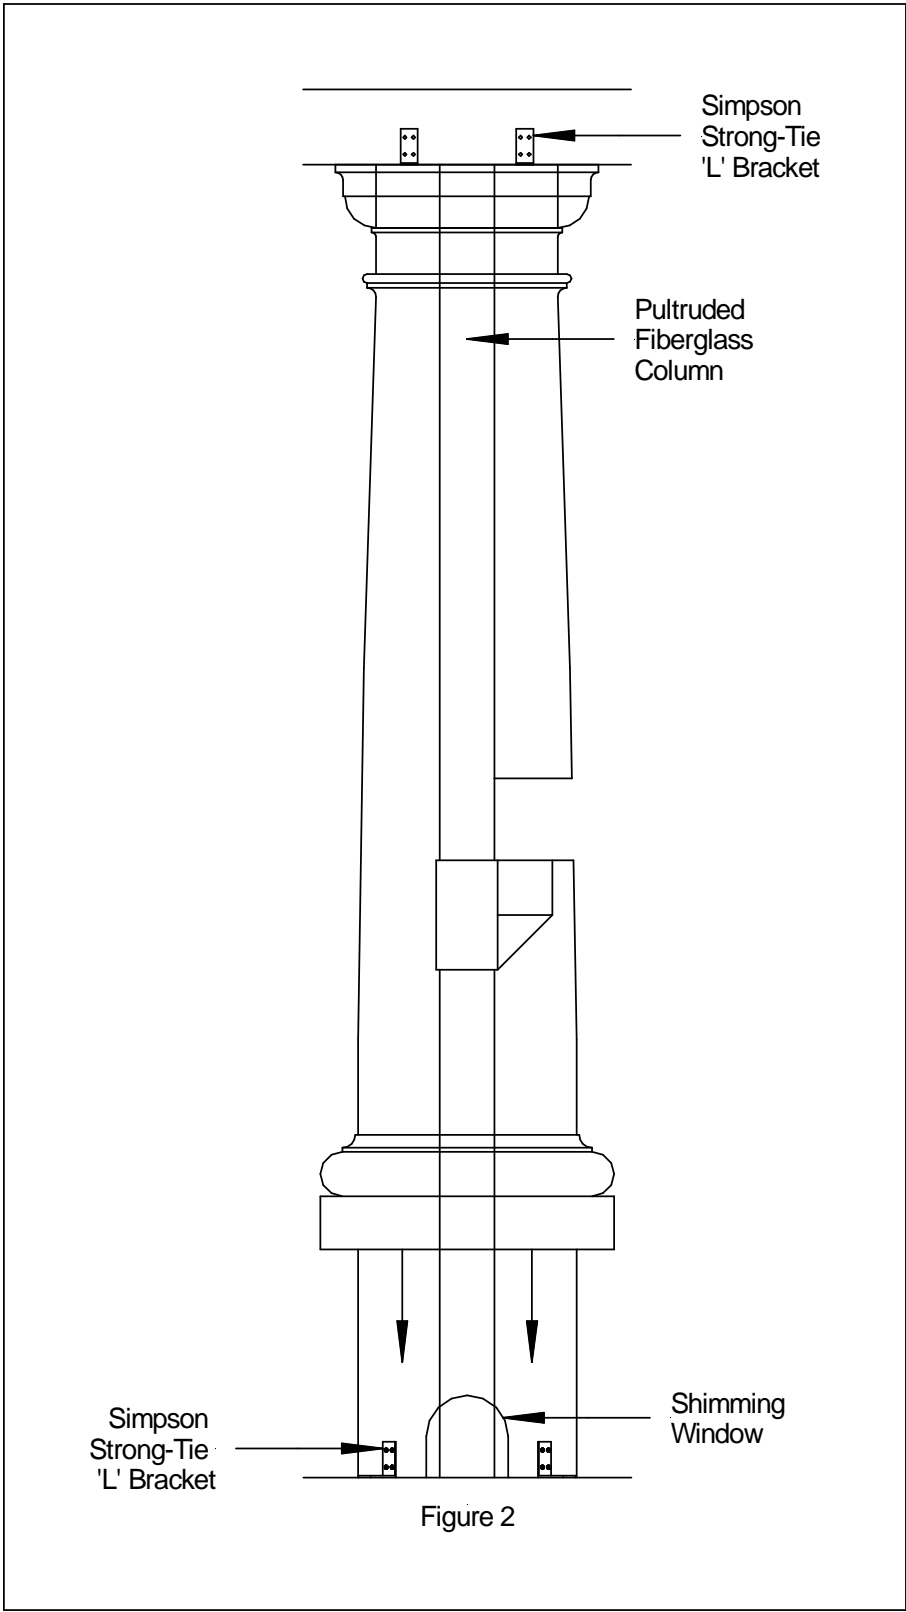

Figure 2
- **Step 2:** Now that the column is in place and the interior shaft is perfectly vertical, make sure that there is no gap between the soffit and the top of the shaft. If there is a gap, the bottom of the shaft must be shimmed up. Be sure to shim underneath the fiberglass pultruded interior structure. To gain access to the pultruded shaft a small “window” is cut into the column below the height of the base; see **Figure 2** below. If a degradable material is used to shim the column, automotive body filler or another high-compression strength material should be used around the bottom of both shafts. This way if the shim rots away the column shaft is still supported.
- **Step 3:** Now that the column is in place the fiberglass covered gusset at the top of the shaft can be attached to the soffit using Simpson Strong-Tie “L” brackets; see **Figure 2** below.
- **Step 4:** The capital is rotated to the desired angle and adhered in place. The bottom of the fiberglass shaft is attached to the substrate using Simpson Strong-Tie “L” brackets at a four locations around the shaft (preferably at 90° from each other); see **Figure 2** below. The fiberglass base slides down over the bottom of the shaft covering hardware and the shimming window. The base is also adhered to the substrate. The small 1/8” gap between the top of the base and the column shaft is caulked and the column installation is completed.